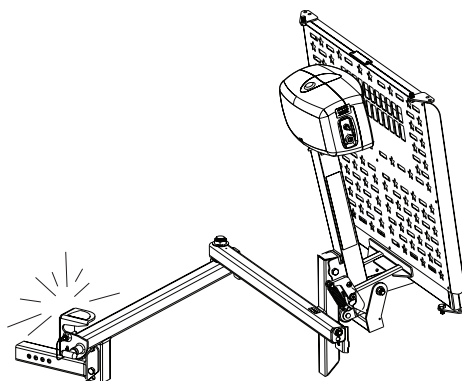

Figure 7-12
1. Close the Swing-Away by returning it to the stowed position. *See Figure 7-12.*